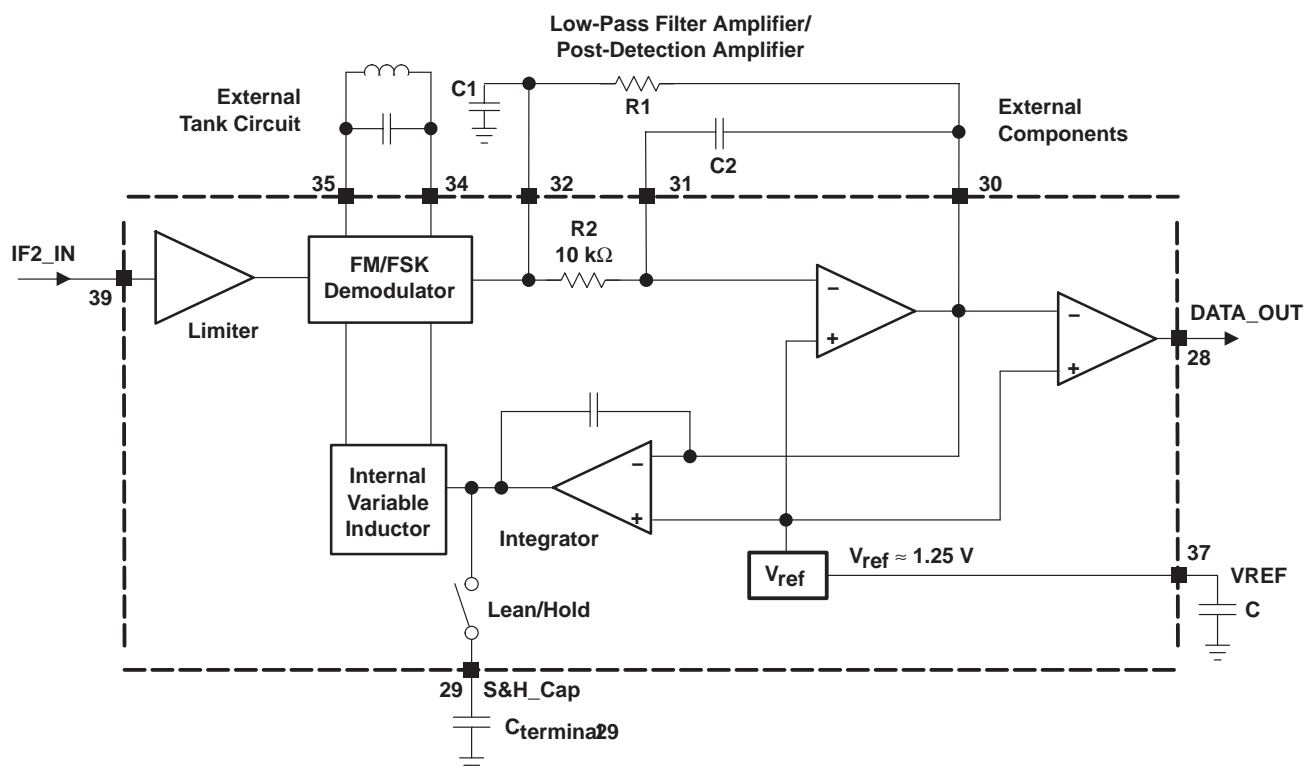

Figure 13. AFC Loop to Control the Data Slicer Decision Threshold
The demodulator is intended for analog (FM) and digital (FSK) frequency demodulation. It consists of a quadrature demodulator with an external LC tank circuit. A variable inductor, internal to the TRF6900A, operates in parallel with the external tank circuit (see Figure 13), and is used to adjust the external tank circuit's resonant frequency. If the tolerances of the external demodulator tank circuit components can provide a maximum frequency error of less than 5%, then no additional adjustments are required. As long as the device is in the *learning mode*, the internal reactance automatically fine-adjusts the resonant frequency of the external LC tank circuit. Depending on the supply voltage, the tank circuit tuning range is approximately four times the discriminator 3-dB bandwidth.
The data slicer is fundamentally a comparator. The data slicer provides binary logic level signals, derived from the demodulated and low-pass filtered IF signal, that are able to drive external CMOS compatible inputs. The noninverting input is directly connected to the internal reference voltage, V_{ref} , and the inverting input is driven by the output of the low-pass filter amplifier/post-detection amplifier. The decision threshold of the data slicer is determined by the internal reference voltage, V_{ref} . The automatic frequency control (AFC) loop scheme for the TRF6900A is shown in Figure 13.